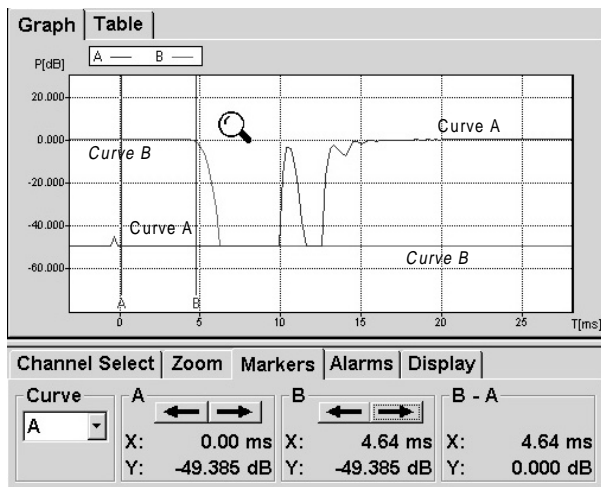
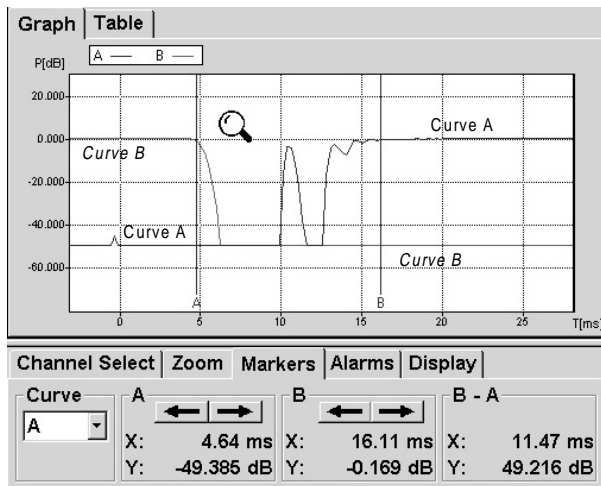

Figure 8-9. Electronics Response Time
Figure 8-10. Total Settling Time of the Optical Switch
11. Using the zoom and markers, determine the switch time from the initial channel to the target channel (Figures 8-9 and 8-10). The position of the trigger corresponds to the “0” moment on the graph.
Figure 8-9 shows the electronics response time as 4.64 ms, while Figure 8-10 shows the settling time of the optical switch as 11.47 ms.